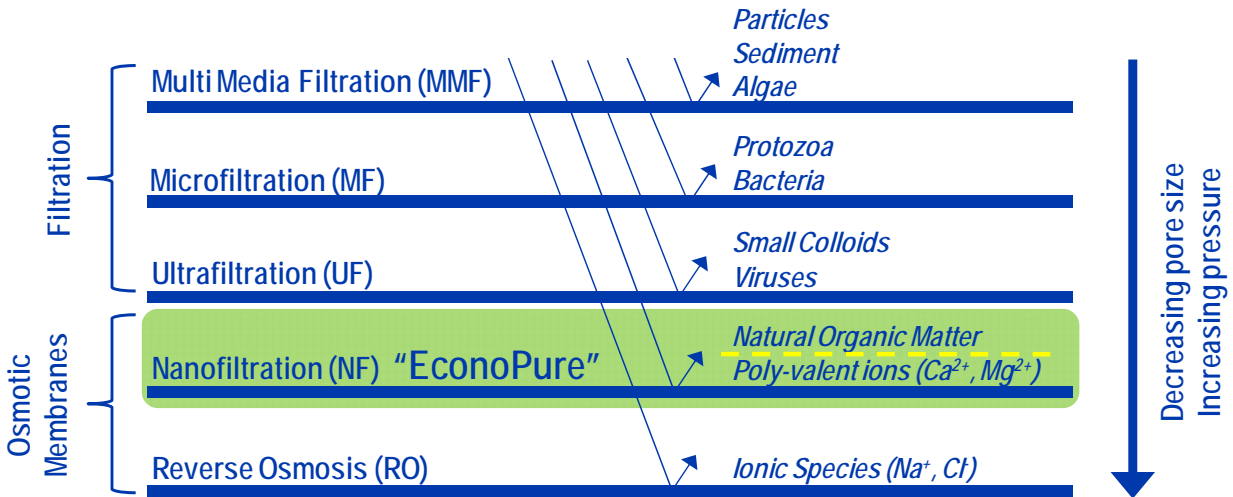

Figure 2 – Physical Separation Media Chart
The basis for the LFNano™ is the nanofiltration membrane or NF membrane. Figure 2 shows a range of physical separation technologies and what they can remove from the water. The first three are often used in pre-treatment ahead of a desalting step but rarely is the nanofiltration (NF) membrane used in pre-treatment.
Virtually all source waters require the removal (or neutralization of) of every contaminant in Figure 2 above the yellow dashed line and very few require removal of those below the line. With NF pre-treatment the later desalting stages can avoid biofouling caused by natural organic matter and the scaling that is associated with hardness or poly-valent ions in the feed water. Scaling can lead to expensive maintenance steps and in the case of reverse osmosis it can even lead to irreversible fouling and require replacement of the RO membranes.